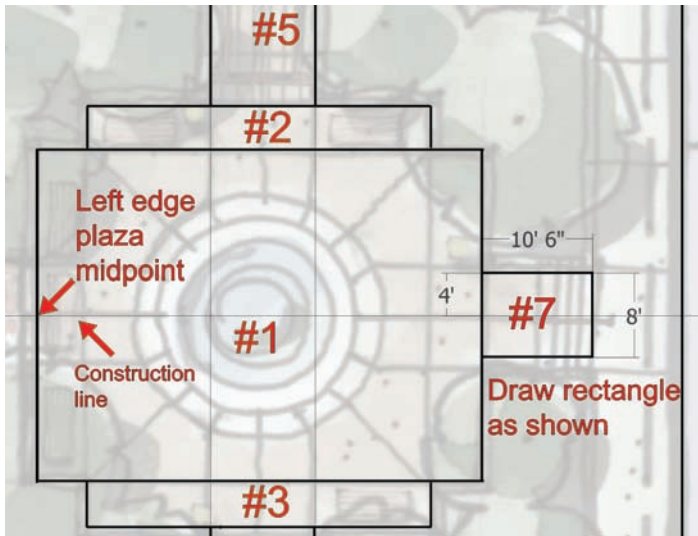

Fig. 7-13: When you draw Rectangle 7, align it with the left edge midpoint of the plaza.
6. To create Rectangle 7, draw an edge from the midpoint of the left edge of the plaza to the right. Four feet above this line, on the outside edge of Rectangle 1, draw a $10'-6" \times 8'$ rectangle to define the entry (Fig. 7-13).